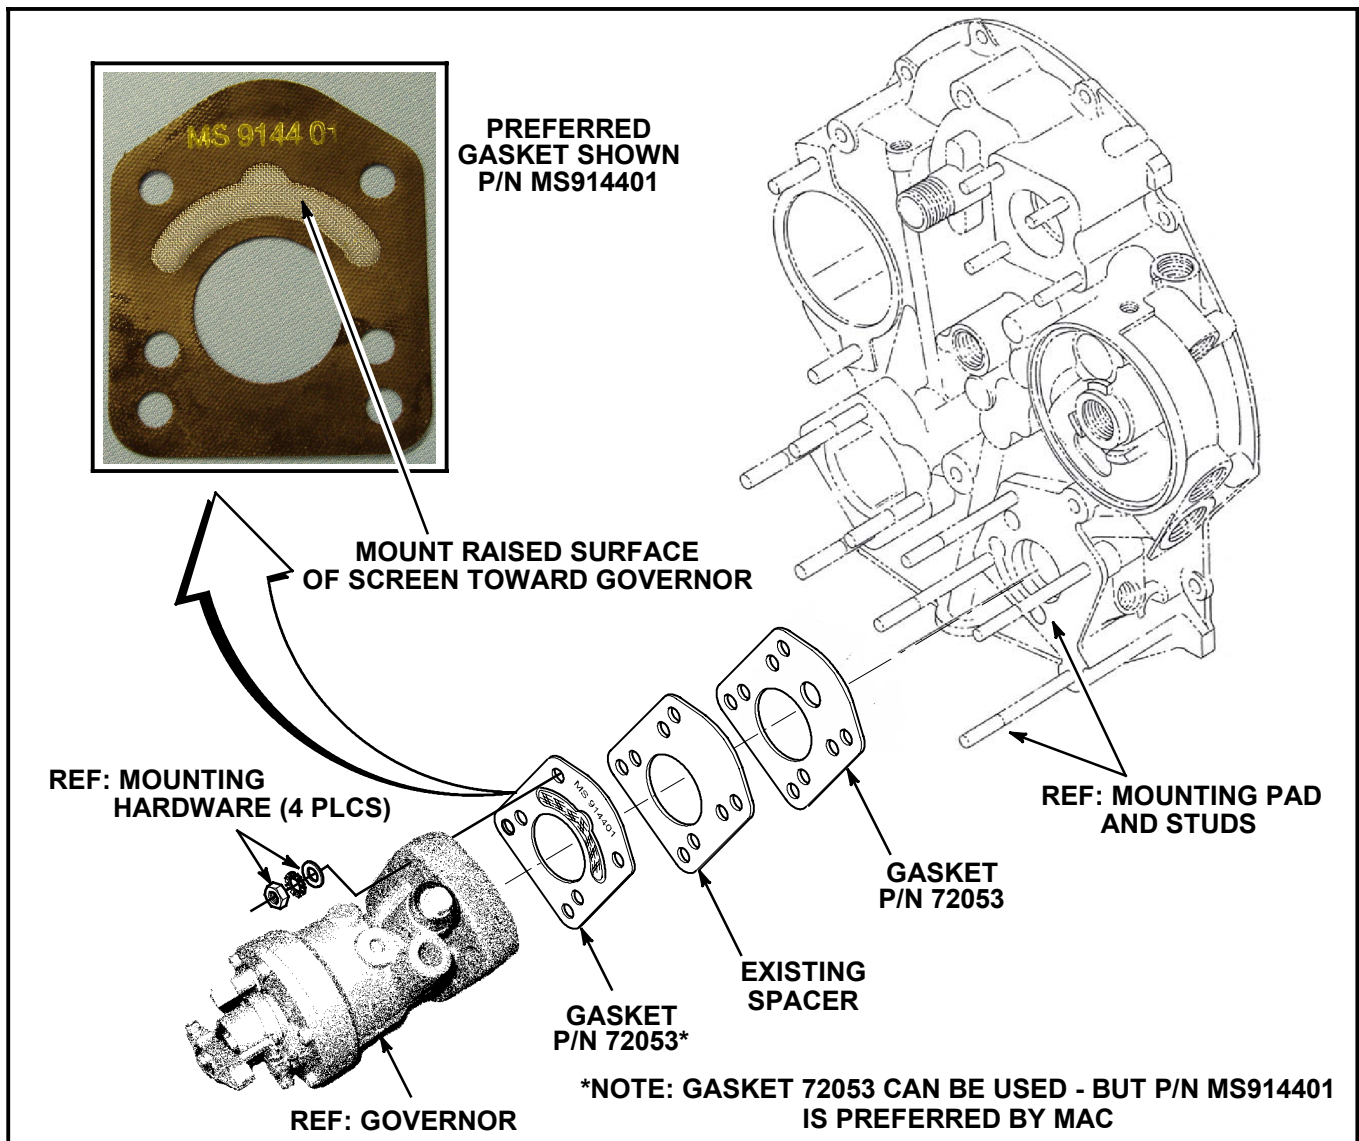

Figure 1 - REAR MOUNTED GOVERNOR PLATE AND GASKET INSTALLATION
- 1.9. Install new gasket (p/n 72053) onto studs and block mounting pad as shown in Figure 1.
- 1.11. Install new gasket (p/n MS914401) with raised screen surface toward governor onto studs and existing spacer plate as shown in Figure 1.